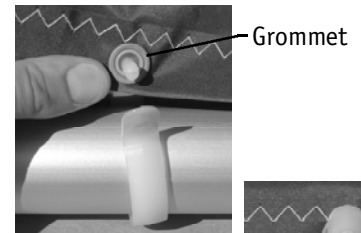

Figure: 32
9. Secure the remainder of the sail to the booms using the sail rings. Locate a grommet, place the sail ring around the boom, insert the grommet between the openings of the ring and press firmly to secure (Figures 32 and 33).